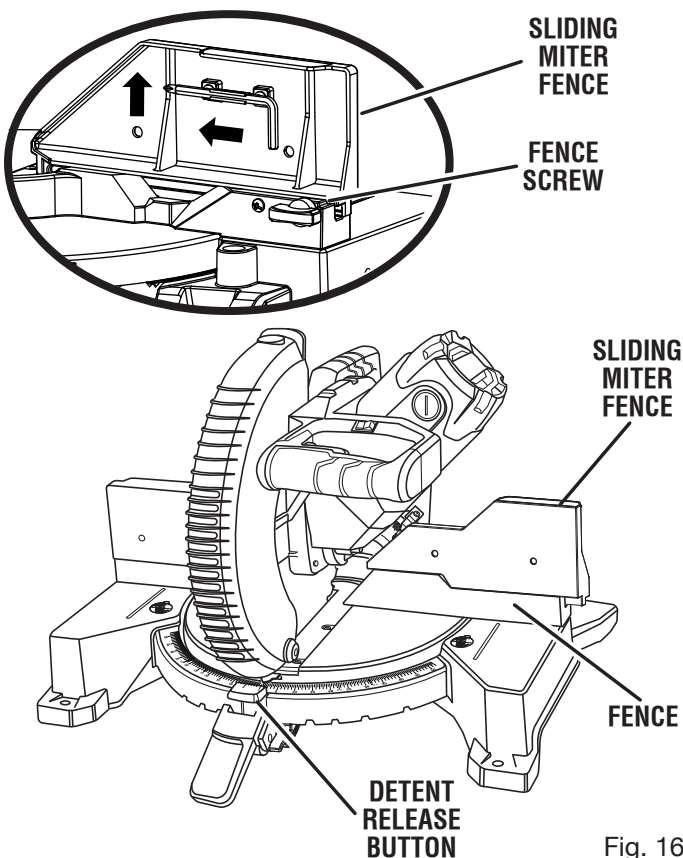

Fig. 16
See Figures 16 - 22.
- Remove the sliding miter fences from the fence. See figure 16.